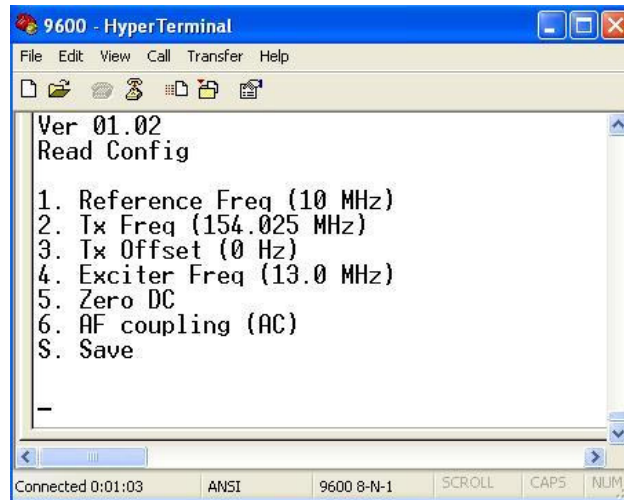

Figure 5. HyperTerminal – Menu.
5. On the SB2000 base station, switch on the power and, on the PC, check that the following HyperTerminal menu as shown below in **Figure 5** is displayed.